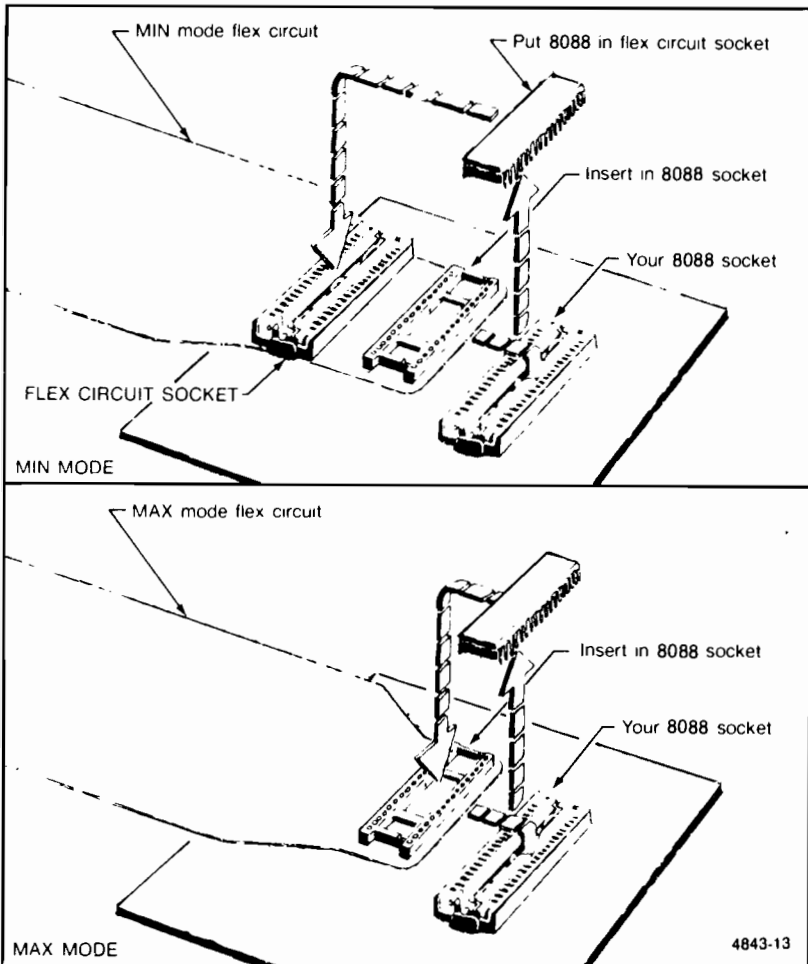

Figure 2. Connecting the PM201 to the 8088 circuit.
Connect the PM201 Personality Module to your circuitry using Figure 2 and the following procedure:
2. Remove the 8088 from its socket in your system and put it into the socket on the flexible circuit of the PM201. If your 8088 is operating in the MIN mode, use the MINmode flex circuit. If your 8088 is operating in the MAX mode, use the MAX mode flex circuit. Whichever flex circuit is used, be sure that it is oriented so that pin 1 connects to pin 1. Refer to Figure 2.